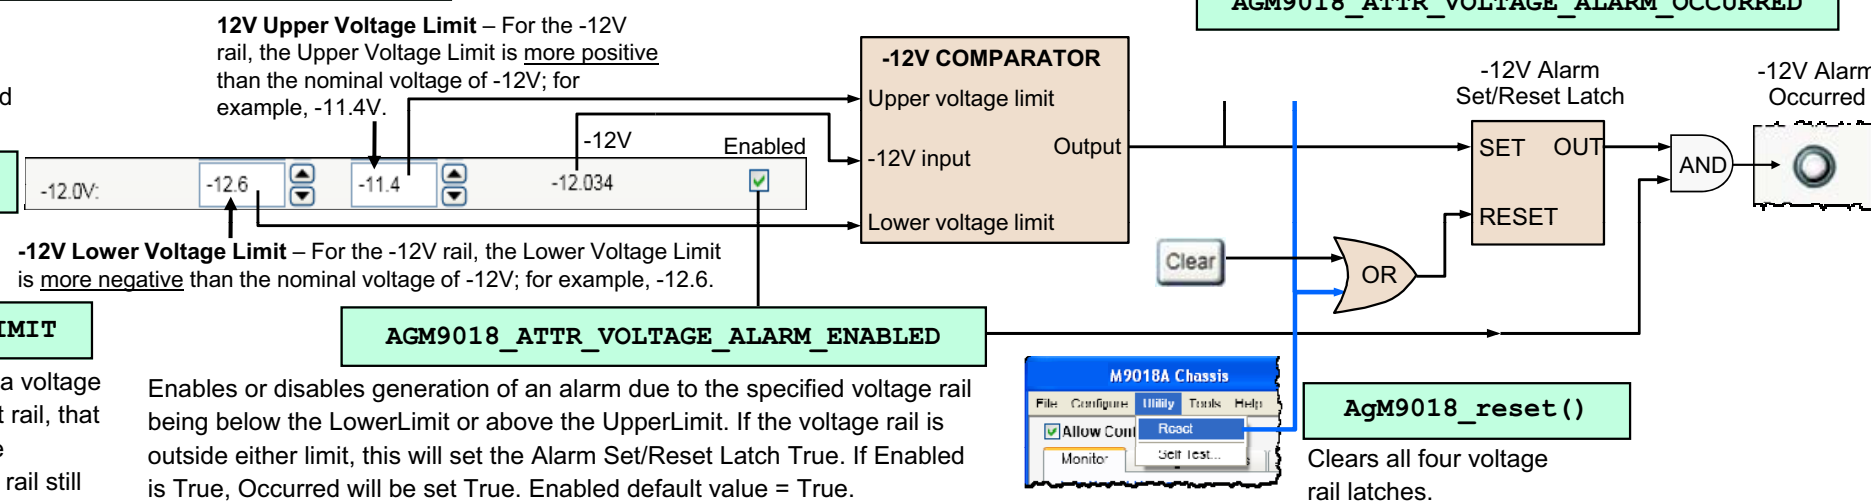

Figure 29 Voltage monitoring using ICI-C and C++
- Using the IVI-C driver and C++ – Figure 29 on page 58